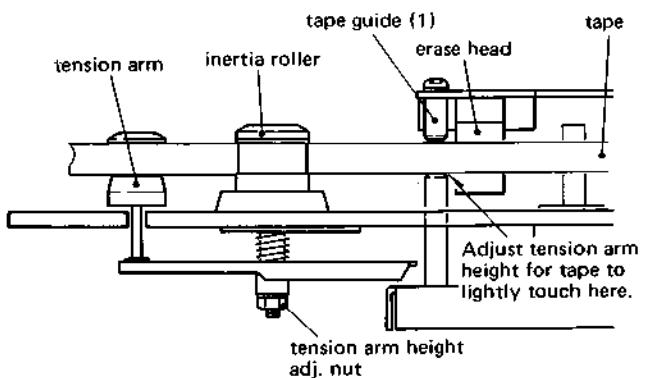

Fig. 2-21 Tension arm height adjustment
1. Running a TEAC YTT-8013 test tape (thickness = 35µm) in the forward direction, adjust the height of the left tension arm so that the lower edge of the tape is just touching the lower edge of the tape guide (1). See Fig. 2-21. Also refer to 2-10 TENSION ARM HEIGHT ADJUSTMENT".
2. Adjust the height of the tape guide (2) so that the upper edge of the tape is in contact with the upper edge of the tape guide.
4. Apply locking paint to the height adjusting nut of the tape guide (2).
5. During reverse play, adjust height of tape guides (3) and (4) in the same way as steps 1 ~ 4. For tape guide (4), adjust right tension arm height.